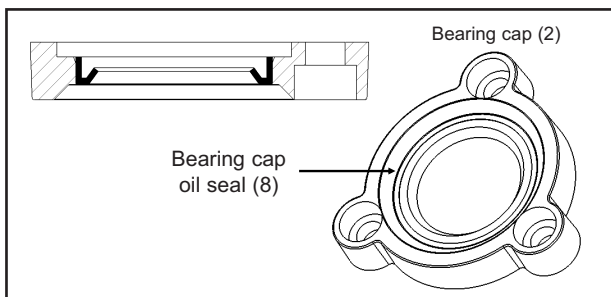

Figure 22
- Lightly grease a new bearing cap oil seal (8). Using a properly sized seal punch, install the oil seal into the bearing cap with the lip up, so that it will face the bearing ; See figure 22.